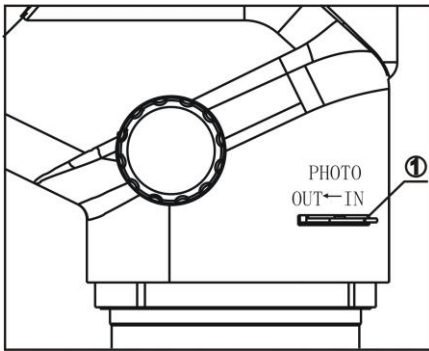

Fig 8
- (1) To observe through binocular, please turn the light path selection lever ① to "OUT". (Fig 8)
- (2) If turn the light path selection lever ① to "IN", (Fig 8), you can observe through both binocular and trinocular.